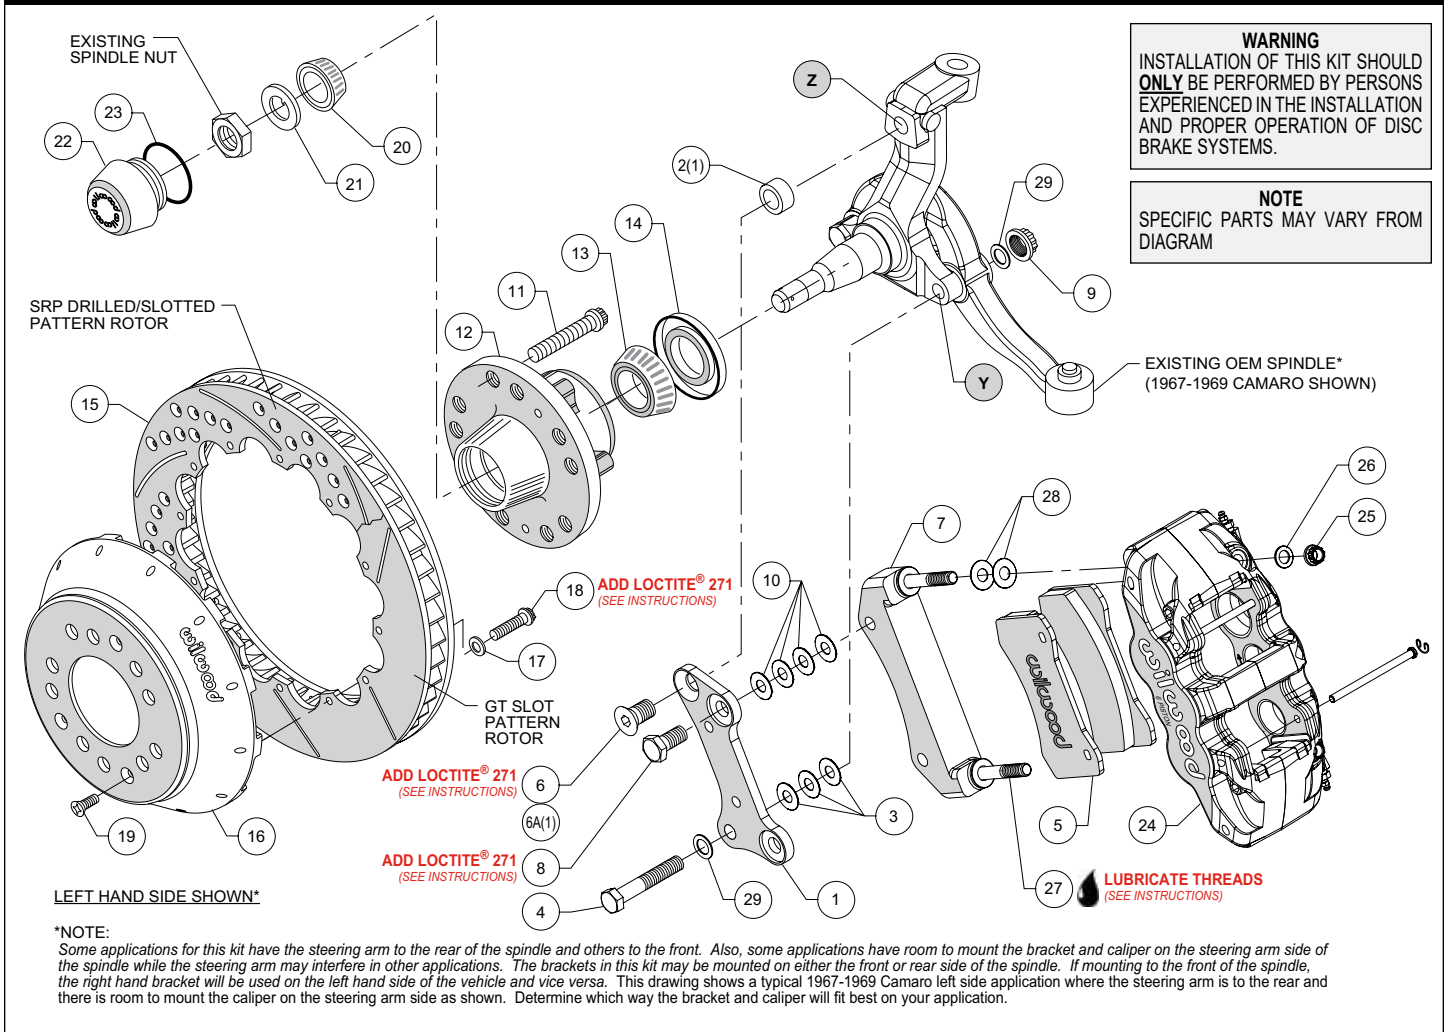
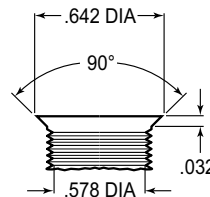

Figure 1. Typical Installation Configuration
Figure 3. Drill and Tap Detail
Numbers in parenthesis refer to the parts list and Figure 1 on the preceding pages.
•**NOTE:** Some applications for this kit have the steering arm to the rear of the spindle and others to the front. Also, some applications have room to mount the bracket and caliper on the steering arm side of the spindle while the steering arm may interfere in other applications. The brackets in this kit may be mounted on either the front or rear side of the spindle. If mounting to the front of the spindle, the right hand bracket will be used on the left hand side of the vehicle and vice versa. Figure 1 shows a typical 1967-1969 Camaro left side application where the steering arm is to the rear and there is room to mount the caliper on the steering arm side as shown. Determine which way the bracket and caliper will fit best on your application.
•**NOTE:** Some spindles in this year range may require the following modifications (reference Figure 1 and Figure 3): Top anchor pin hole (Z) must be drilled and tapped to the dimensions as outlined in Figure 3. The lower bolt hole (Y) in the spindle used to mount the new caliper bracket, and the mating steering arm hole, must be enlarged to .50" by drilling. It is recommended these modifications be performed by a qualified machinist.
•Install wheel studs (11) into the hub (12), Figure 1 and Photo 1. Torque to 77 ft-lb. **NOTE:** There are two five lug patterns in the hub (5 x 4.50 and 5 x 4.75). Ensure the correct hub stud pattern is being used to fit the wheel application.
•Pack the large inner bearing cone (13) with high temperature disc brake bearing grease (available from your local auto parts store) and install into the backside of the hub (12), Photo 2.
•Install the grease seal (14) by pressing into the backside of the hub (12), flush with the end of the hub, Photo 2.
•Orient the rotor (15) and the hat (16) as shown in Figure 1 and Photo 3. Attach rotor to hat using bolts (18) and washers (17). Apply red *Loctite*® 271 to the bolt threads and torque to 155 in-lb using a criss-cross pattern. For an added measure of security, the bolts may be safety wired using standard 0.032 inch diameter
- Disc Brake Spindle Application Only:** Follow the instructions below, but instead use bolt (6A), and spacer (2) in the upper bolt hole location, Figure 1.
- Orient the flat bracket (1) as shown in Figure 1 and Photo 4, and install using bottom bolt (4), washers (29), and nut (9), Figure 1. Initially place three .032" thick shims (3) between the bracket and spindle. Install the upper bolt (6 or 6A), Photo 5. Temporarily tighten bolts. **NOTE:** *The bracket must fit squarely against the mounting surfaces on the spindle.* Inspect for interference from casting irregularities, machining ridges, burrs, etc. Temporarily install the hub and hat/rotor assembly. Check that the bracket is aligned parallel to the rotor, Photo 6. If not, adjust by adding or subtracting shims (3) on the lower bolt between the bracket and spindle, Figure 1. Once the bracket alignment is correct, remove the upper bolt (6 or 6A), apply red *Loctite*® 271 to the bolt threads, and torque to 120 ft-lb. Torque the lower lock nut to 65 ft-lb.
- The radial mount caliper bracket (7) should initially be installed with clean dry threads on the mounting bolts. Orient bracket as shown in Figure 1, and install using bolts (8). Initially place four shims (10) on each bolt between the two brackets. Temporarily tighten the mounting bolts. Later, after the caliper alignment has been checked, the mount bolts will be secured using red *Loctite*® 271.
- Pack the small outer bearing cone (20) with high temperature disc brake bearing grease and install into hub (12). Final install the hub assembly onto the spindle. Secure using spindle washer (21), and OEM spindle nut, Photo 7. Adjust bearings per OEM specifications. Install new cotter pin (not included).
- Screw dust cap (22) into hub (12), Photo 8. Friction created by the o-ring (23) on the dust cap keeps it from unscrewing. **NOTE:** *The O.D. of the existing OEM spindle washer may be larger than the I.D. of the dust cap not allowing it to seat against the hub face. Therefore, use the spindle washer (21) supplied with the kit instead of the OEM washer.*
- Final install the hat/rotor (15 and 16) onto the hub (12) taking care to align the small countersunk holes in the hat with the small threaded holes in the hub. **NOTE:** *The hat must fit flush against the hub face or excessive rotor run out may result.* Install three flat head screws (19) through the small holes in the hat (16), Photo 9, and torque to 85 in-lb.
- NOTE:** *This kit contains distinct right and left hand calipers that must be mounted in a specific direction, as described below.* Lubricate the caliper mounting studs (27) with lightweight oil. Initially place two .030" thick shims (28) on each stud between the caliper and the bracket, as shown in Figure 1 and Photo 10. Mount the caliper (24) onto the bracket (8) using lock nuts (25) and washers (26), Figure 1. Ensure that the caliper is mounted so the largest pistons are at the rotor exit end of the caliper,
- Remove the two pad retaining pins from the caliper (24) by carefully popping out the pin retaining clips and sliding out the pins. Insert the brake pads (5) into the caliper from the bottom, Figure 1, Photo 12. With the friction material facing the rotor, secure the brake pads in place with the pad retaining pins and clips, Photo 13. Reinstall the caliper onto the caliper mounting bracket and temporarily tighten the lock nuts. Check that the top of the brake pad is flush with the outside diameter of the rotor, Photo 14. If not, adjust by adding or subtracting shims (28) between the caliper and the bracket. After the caliper pad height is set, torque the caliper lock nuts (25) to 47 ft-lb.